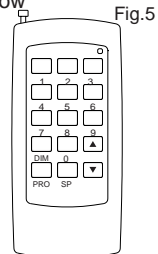

Fig.5
4. Wireless remote controller (See Fig.5):